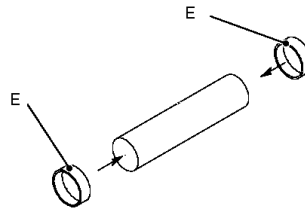

Figure 6
Install the intake gaskets (E) on the intake pipes as shown in Figure 6.